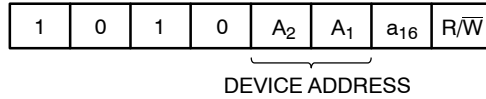

Figure 3. Slave Address Bits
The Master initiates data transfer by creating a START condition on the bus. The Master then broadcasts an 8-bit serial Slave address. The first 4 bits of the Slave address are set to 1010, for normal Read/Write operations (Figure 3). The next 2 bits, A₂, A₁, select one of 4 possible memory devices connected on a single I^2C bus. The A₂ and A₁ bits must match the state of the external address pins. The seventh bit, a₁₆ is the most significant internal address bit. The last bit, R/ \overline{W} , specifies whether a Read (1) or Write (0) operation is to be performed. To select an internal memory location (data byte) a 17-bit address word is required: a₁₆ bit from the Slave address byte followed by two address bytes.